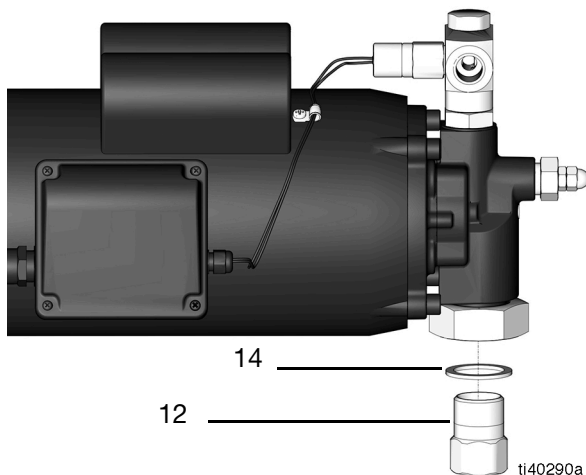

FIG. 8
5. Remove the inlet check valve assembly (12) using a 1 3/8 in. wrench (FIG. 8).
6. Remove the seal (14) (FIG. 8).
2. Place the seal (14) (FIG. 8).
3. Put PTFE thread seal tape onto the thread of the inlet check valve assembly (12).
4. Insert the inlet check valve assembly (12) and hand tighten.